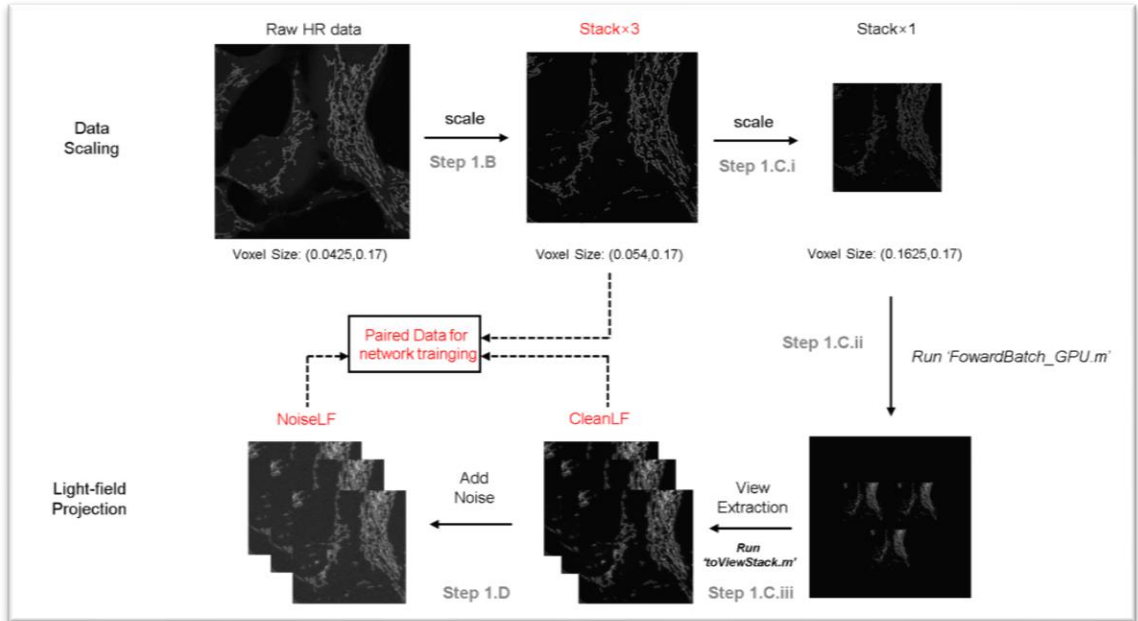

Fig. 3 Pipeline of data-preprocessing.
0.1625 μ m at lateral dimension and 0.17 μ m at axial dimension, which is about three-folds than the high-resolution stack acquired from Airyscan2. So, we set the SR factor as 3 and scale the acquired stacks to $0.1625/3 \approx 0.054$ μ m at XY dimension and 0.17 μ m at Z dimension as shown in Fig.3.